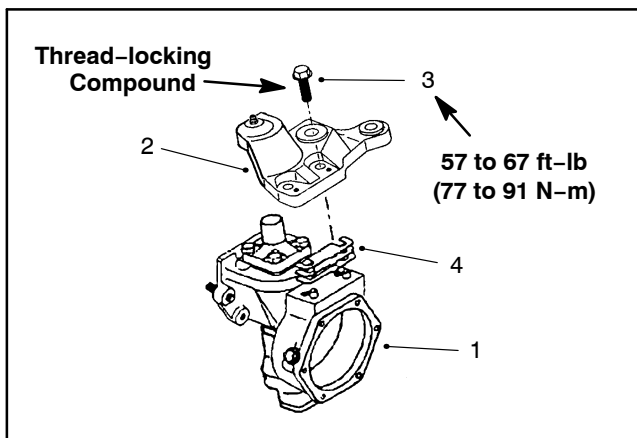

Figure 20
4. Remove the axle case support mounting screws, the axle case support and the support shims (Fig. 20).